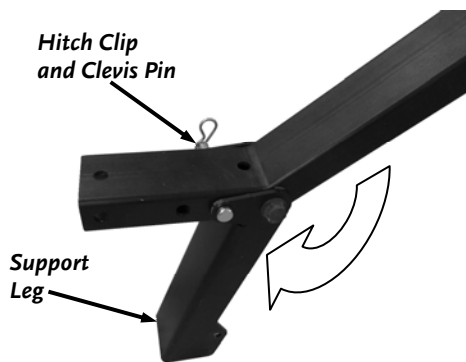

Figure 8
10. The Leg may already be in the down position but if it is not then pull the Hitch Clip and Clevis Pin from the Leg and fold it to the down position. Align the holes and secure the Leg with the Clevis Pin and Hitch Clip (**Figure 8**).